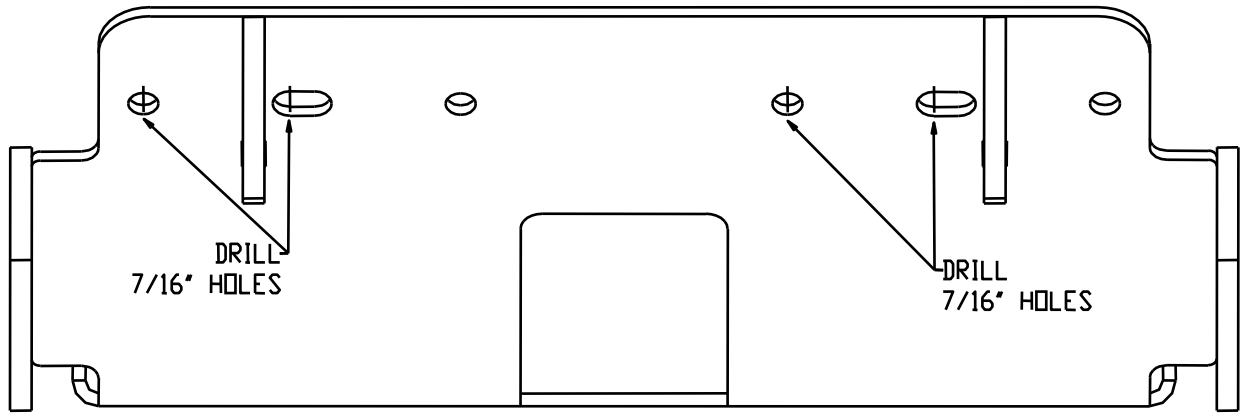
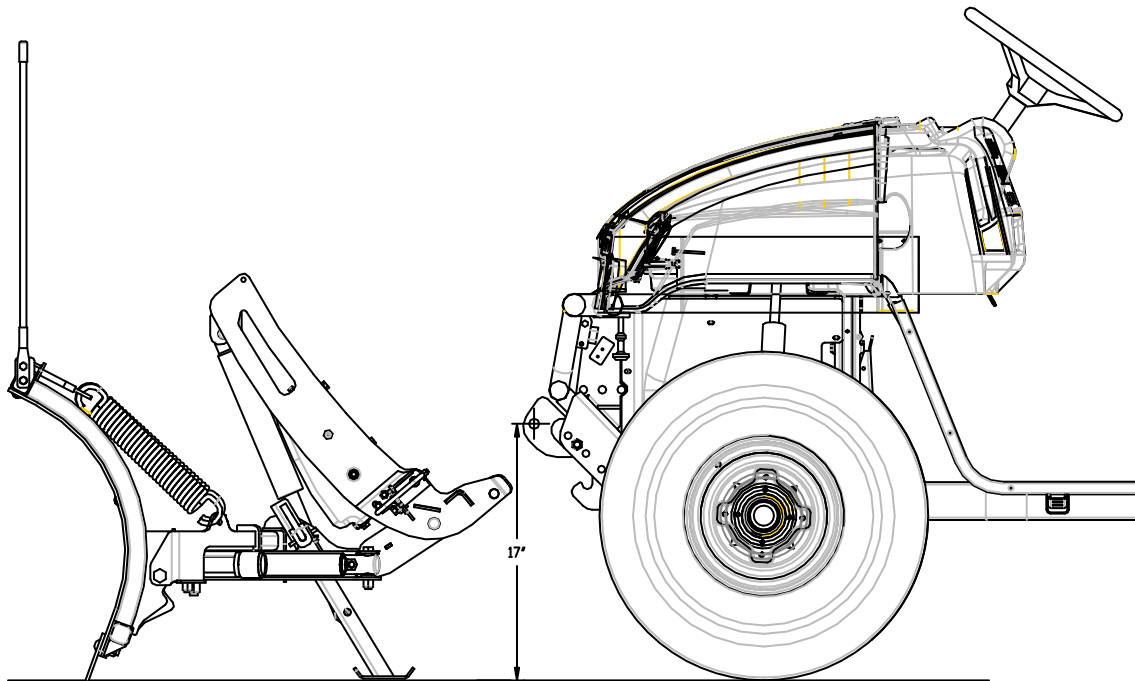

Figure 2
Figure 3
4. For each of the two Angle Bracket Assemblies (63) align two holes on each side with two holes on Frame and two holes on Bumper (from Step 3). Using 5/16"-18 X 1" Hex Head Bolts (I) and 5/16"-18 Nylon Lock Nuts (A) attach Angle Bracket Assembly (63) to Frame. Using 3/8"-16 X 1" Hex Head Bolts (B) and 3/8"-16 Nylon Lock Nuts (C), attach remaining Angle Bracket Assembly (63) to Bumper/Skidplate Assembly (75). Leave finger tight.
5. With the Skidplate Assembly (75) and Angle Bracket Assemblies (63) in place, tighten four 5/16"-18 X 1" Hex Head Bolts (I), along with the eight 3/8"-16 X 1" Hex Head Bolts (B).
NOTE: The proper height adjustment for the Pushbeam (62) is approximately 17" from the ground to the center of Pushbeam (62) pin-receiving hole (See Figure 2) for Plow System.
6. Using 3/8"-16 X 1" Hex Head Bolts (B), 3/8"-16 Nylon Lock Nuts (C), 1/2"-13 X 1-1/2" Hex Head Bolts (D), and 1/2"-13 Nylon Lock Nuts (E), mount Pushbeam Assembly (62) to Skidplate Assembly (75).
7. With all undercarriage parts in place, securely fasten all remaining mounting hardware. It is important that all fasteners be properly torqued (See Figure 3) to assure a safe operating plow. Retighten all fasteners after two hours of plowing.
8. Add BOSS decal to front of top tube on Pushbeam Assembly (62).